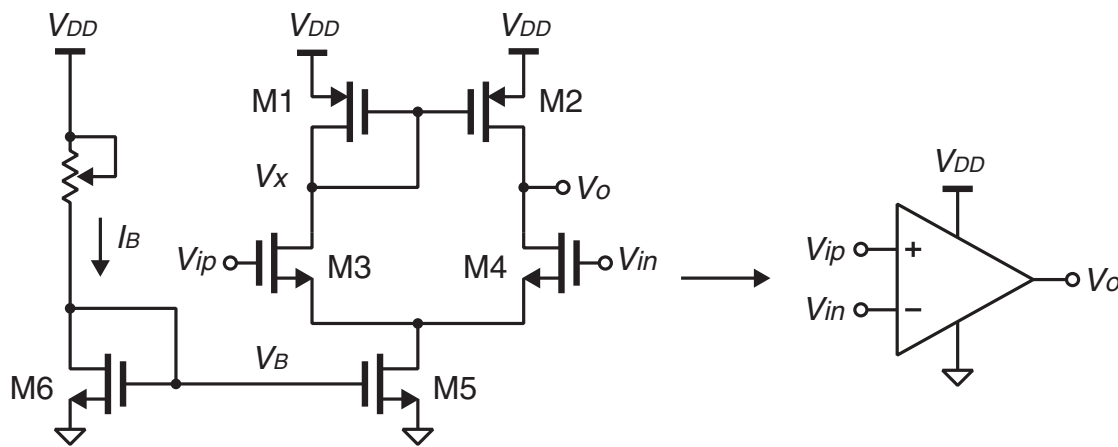

Figure 1: A CMOS opamp.
In this lab, you are to analyze, simulate, and test the basic CMOS opamp shown in Figure 1. The supply voltage (V_{DD}) is 5 V in this lab.
Go through the following preparation steps for the opamp in Figure 1.
1. Assemble the opamp shown in Figure 1 on the breadboard
3. Adjust one of the opamp input for $V_o = V_x$ (see Figure 1) where the opamp is at equilibrium. The opamp differential input at the equilibrium is the offset voltage of the opamp. Do not turn the potentiometers from this point.